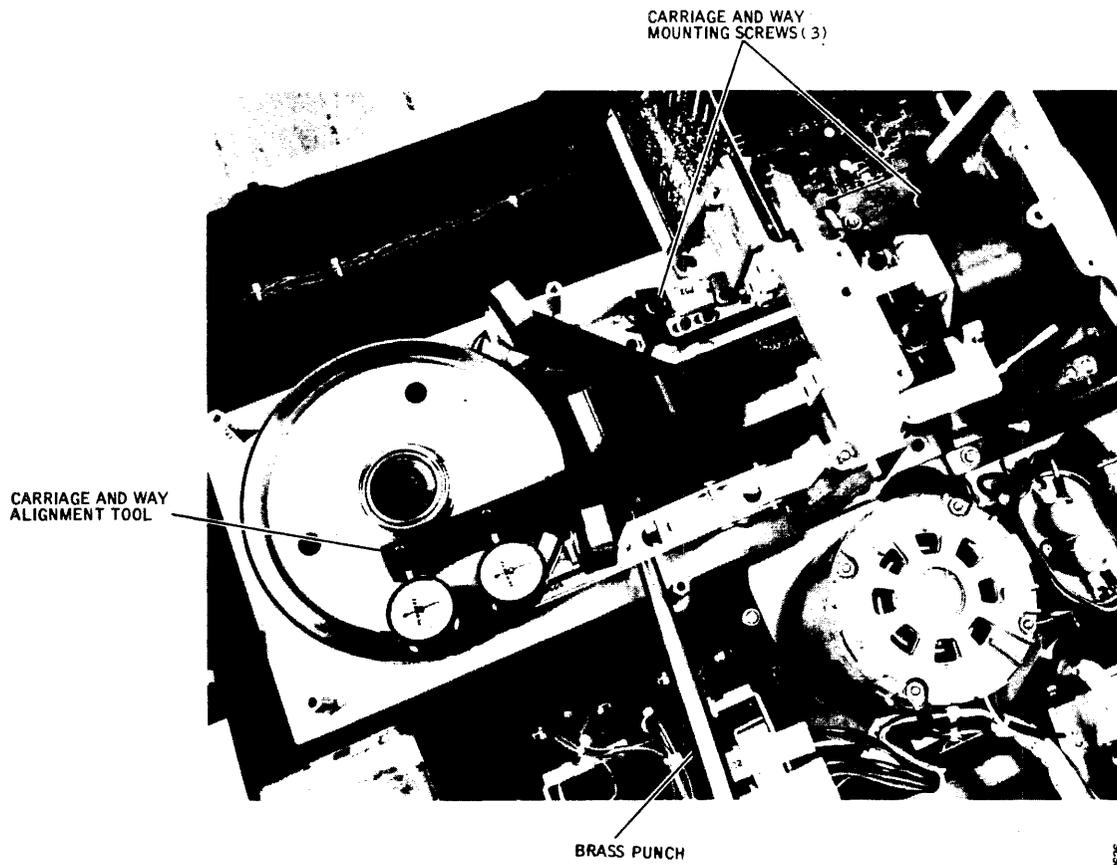
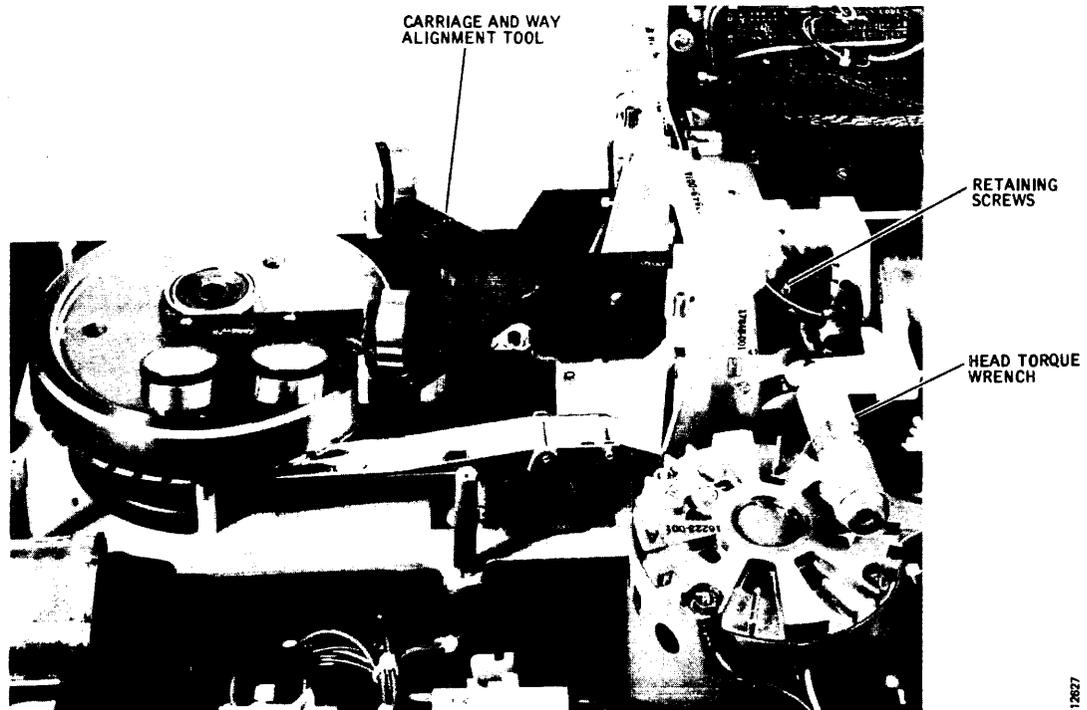

Figure 3-50. Carriage and Way Mounting Bolts Location with Carriage and Way Alignment Tool Installed
Figure 3-51. Carriage and Way Alignment Tool Installed
Three mounting bolts (see Figure 3-50) hold the carriage and way assembly to the deck plate and secure the alignment in pitch, roll, and yaw aspects. A toothed leveling jack (see Figure 3-51) is located below the right-hand bolt under linear motor band. To alter carriage and way alignment proceed as follows:
8. Loosen the three bolts that attach the carriage and way assembly to the deck plate assembly, (see Figure 3-51), and tighten them just fingertight.
9. Move the head carriage to mid-position on the way, and install the alignment tool on the carriage. Make sure that the alignment tool is well seated on the head carriage, and tighten the securing screws to 88 inch-ounces with the head torque wrench. Refer to Figure 3-51.
14. While continuing to perform step 13, carefully adjust the lateral and yaw position of the way by tapping a brass-punch (see Figure 3-50) with a small, rubber-faced mallet until both indicators read within 0.0002 inch of reference zero and each other.
18. When alignment is completed, move the carriage to mid-position, and remove the carriage and way alignment tool. Replace bottom linear motor bands (two screws) (see Figure 3-51).